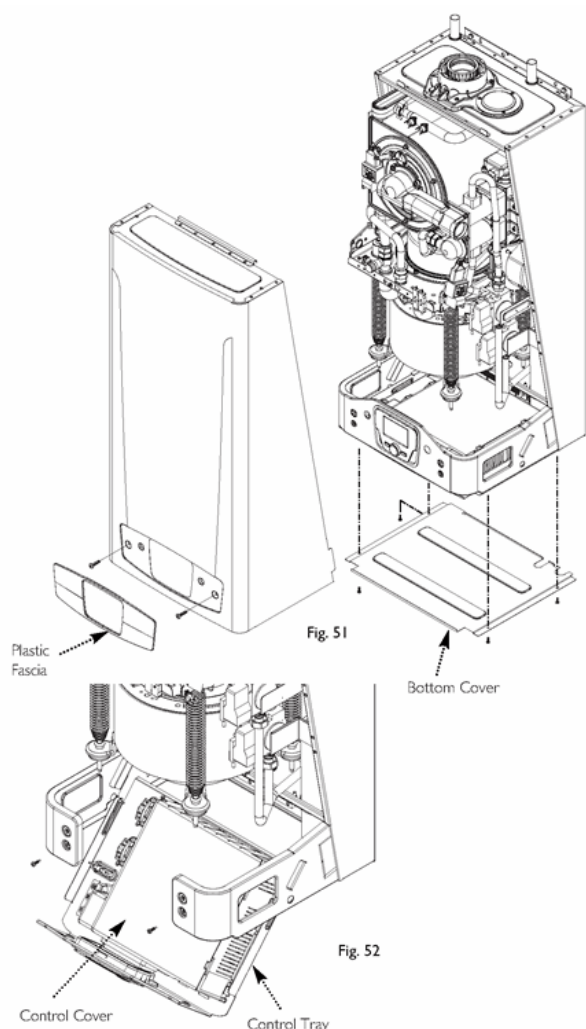

Fig. 51 & Fig. 52
1. Remove the plastic fascia on the front of the appliance which is held on by two magnets (Fig. 51).
2. Remove the two screws and the front case by pulling forward at the bottom edge and then lifting clear of the engagement at the top of the appliance (Fig. 51).
3. Undo the four screws from the bottom cover and remove the cover (Fig. 51).